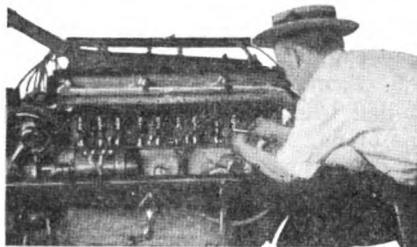

FIG. 2.—EXCESSIVE CLEARANCE FROM VALVE STEM TO PUSH ROD WILL CAUSE A TAPPING NOISE
1. *Valve Stem to Push Rod Clearance Excessive.* This will cause a tapping noise. The correct clearance space at this point as shown by Fig. 2, where a workman is making an adjustment, varies on different makes of cars from .002" to 1-64". If you do not know the exact amount for the car in question, it is safe to use a business card as a thickness guage. Make sure that the lock or check nut is set tightly. Otherwise the continual hammering of the car's action will jar it loose and a "miss-